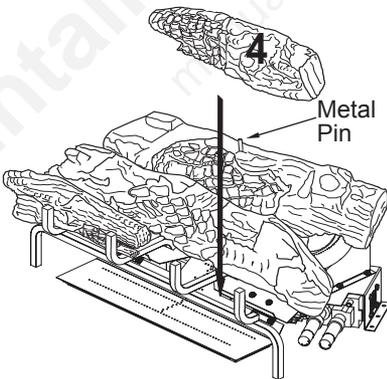

Figure 38- Installing Log # 4
- Place the front right log (#4) onto the base assembly between the middle log and the grate. The back of the front right log will rest against the front of the middle log. The notch in the end of the front right log will fit around the grate bar. See Figure 38.